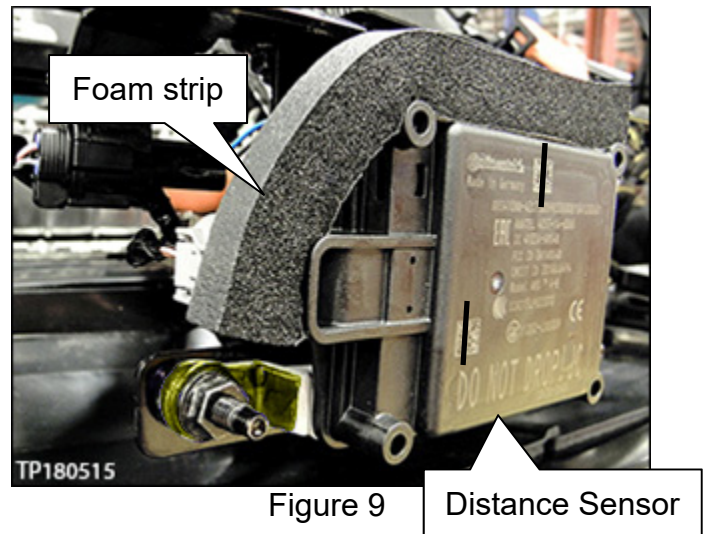

Figure 9
- d. Fold the foam strip down the passenger's side of the Distance Sensor and attach where shown in Figure 9.